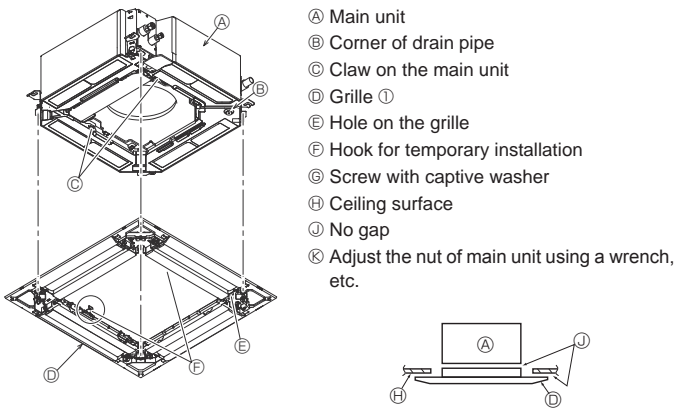

Fig. 9-6
9.4.2. Temporary installation of the grille (Fig. 9-6)
- By tightening the pre-installed screws, fix the grille onto the main unit. (Fig. 9-6)
Make sure there is no gap between the main unit and the grille or between the grille and the ceiling surface. (Fig. 9-6)
- After tightening the screw, confirm that the two grille hooks (Fig. 9-6) are latched onto the hooks on the main unit.